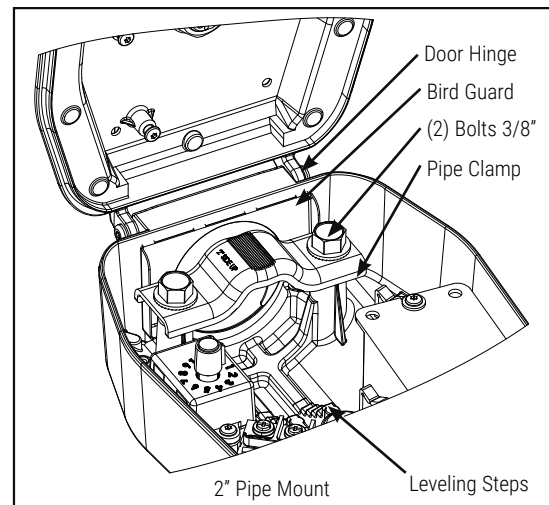

Figure 2.
4. If using a 1-1/2" pipe, remove the clamp bolts and flip clamp so that pipe size is visible from the top. The clamp must be reversed for the smaller pipe size option. (Figure 2.)